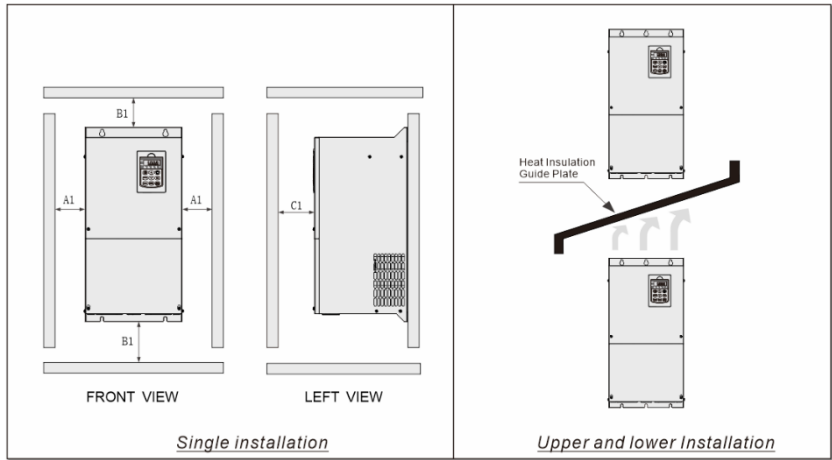

Figure 3-1 Installation Diagram
- 1) In order to easy to dissipate the thermal, please install the inverter vertically, but cannot be inverted. If there are several inverters in the cabinet, the best method is to install side by side. When two Variable Speed Drives are installed one on top the other, the heat insulation guide plate should be installed between as shown in Figure. 3-1.
ments on installation space are shown in Figure 3-1 which should ensure the heat dissipation space of the t should ensure the heat dissipation condition of other components in the cabinet.